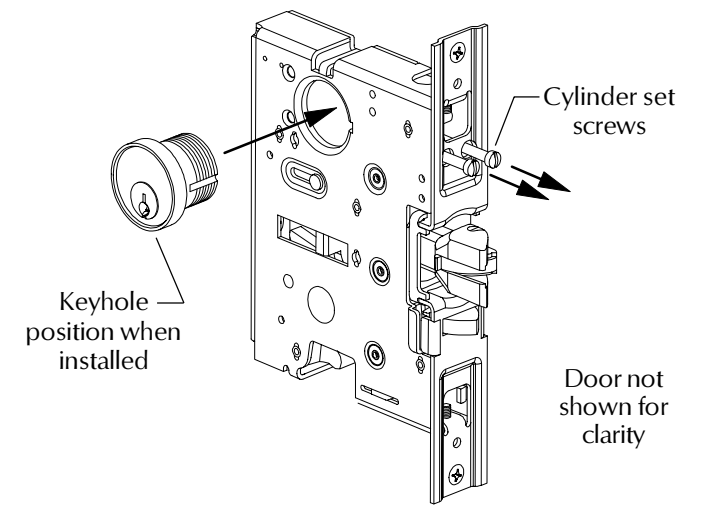

Figure 3
7. If using outside cylinder (Figure 3):